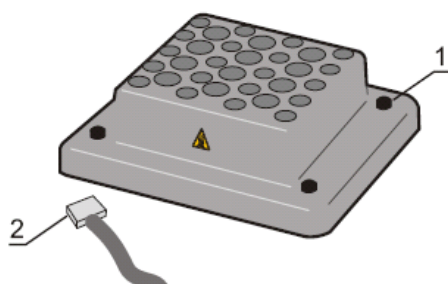

Figure:1
Connect the plug (fig. 1/2) to the contact terminal on the underside of the block. Align the block so that the warning label is facing the front of the unit and secure with the four knurled screws.
- Remove the four knurled screws (fig.1/1), disconnect the plug (fig.1/2).